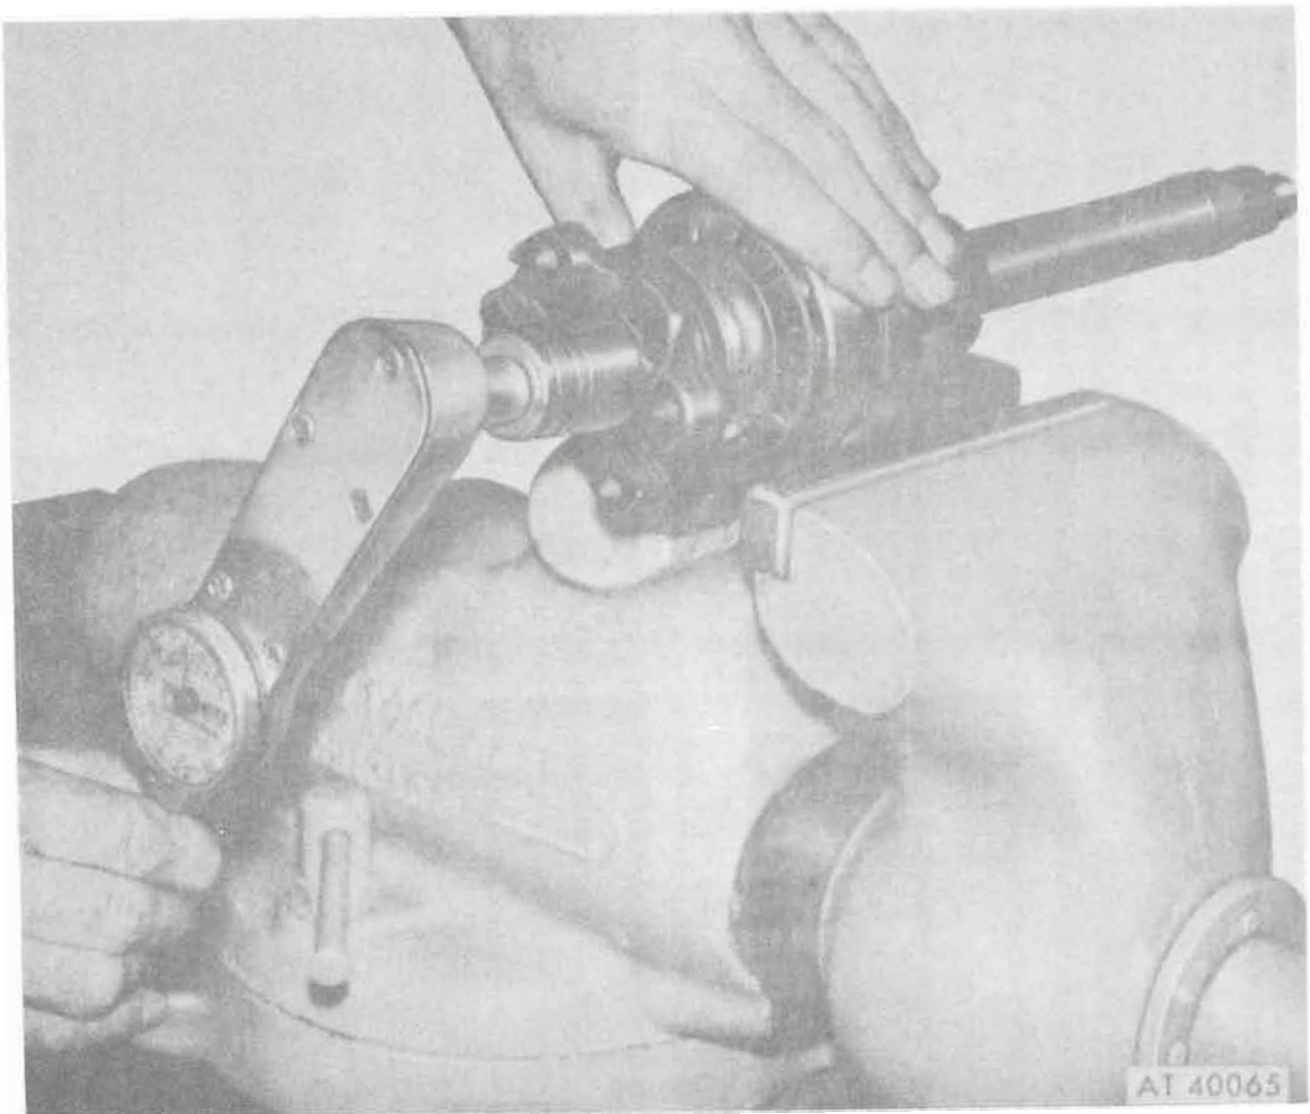

Figure 12-58. Checking differential pinion bearing preload.
d. Check bearing preload by holding bearing outer race and turning shaft using a pound-inch torque wrench. Effort to turn shaft in either direction should be 10-20 lb.-in. for new bearing installation only (fig. 12-58).